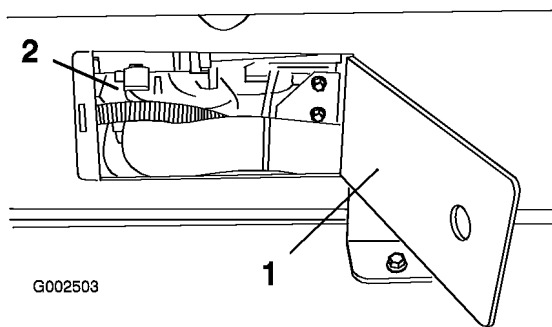

Figure 18
4. Use the access panels on both sides of the tank skid to check for pinching of any hoses or wiring (Figure 18).